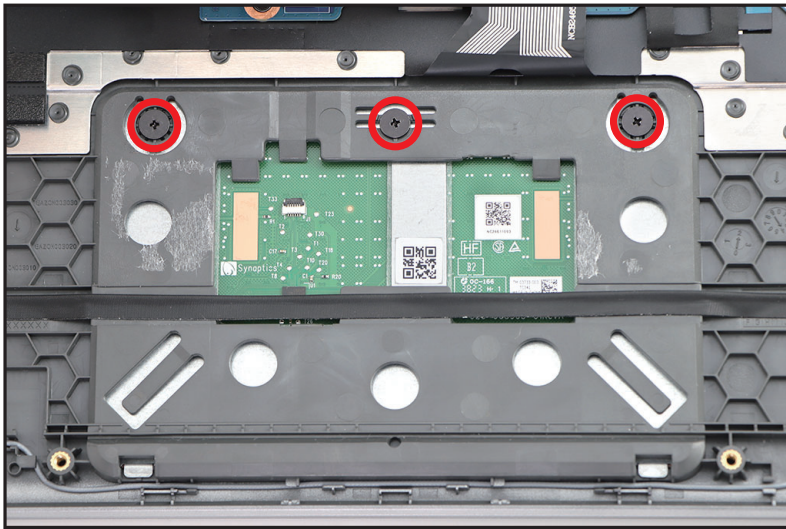

Figure 1-21. Touchpad Module Removal
4. Remove three (3) screws securing the touchpad module (Figure 1-21).